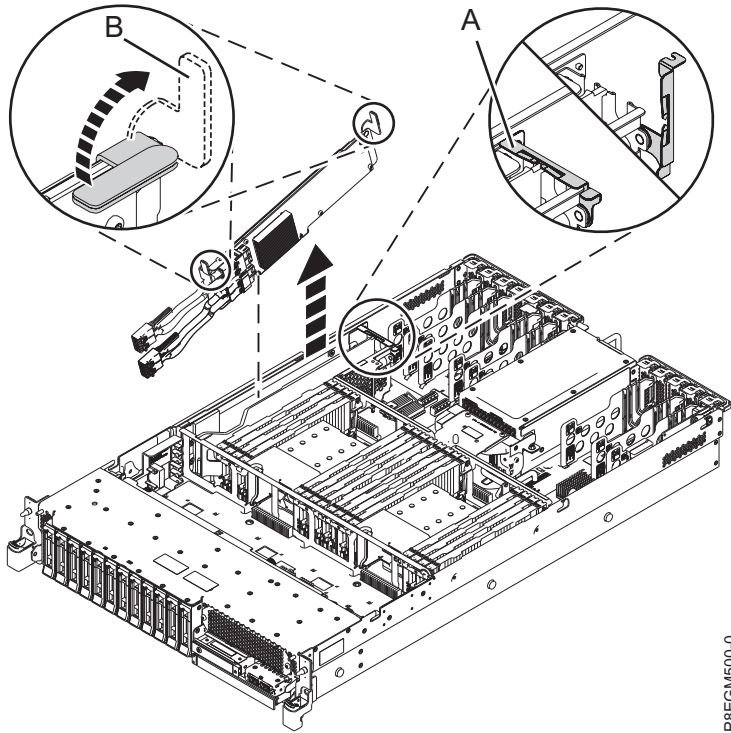

Figure 12. Removing the SAS RAID internal adapter
5. Lift the cable retention bracket **(A)** in the direction that is shown in Figure 12 on page 14.
6. Lift the blue handles **(B)** in the direction that is shown in Figure 12 on page 14.